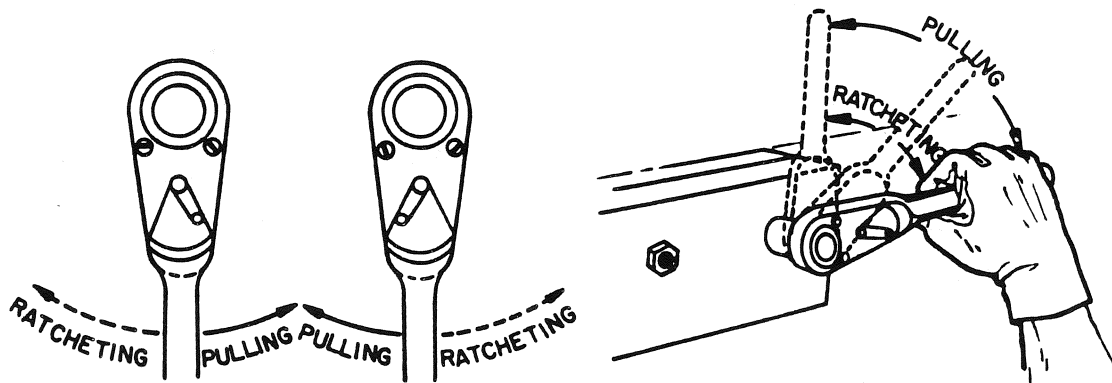

Figure 10.29. Ratchet Handle
2. The socket is detachable and may be attached to several different types of handles for many different applications. (See Figure 10.29, 30, 31, 32, and 33)
3. The handle most commonly used is the ratchet. (Figure 10.29)